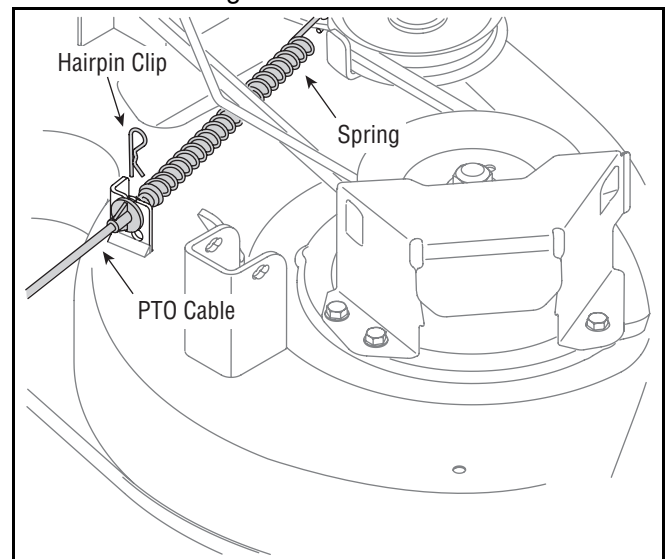

Figure 24
3. Remove the hairpin clip that secures the PTO cable to the rear of the cutting deck. See Figure 24. Remove the PTO cable and accompanying spring from the cutting deck.